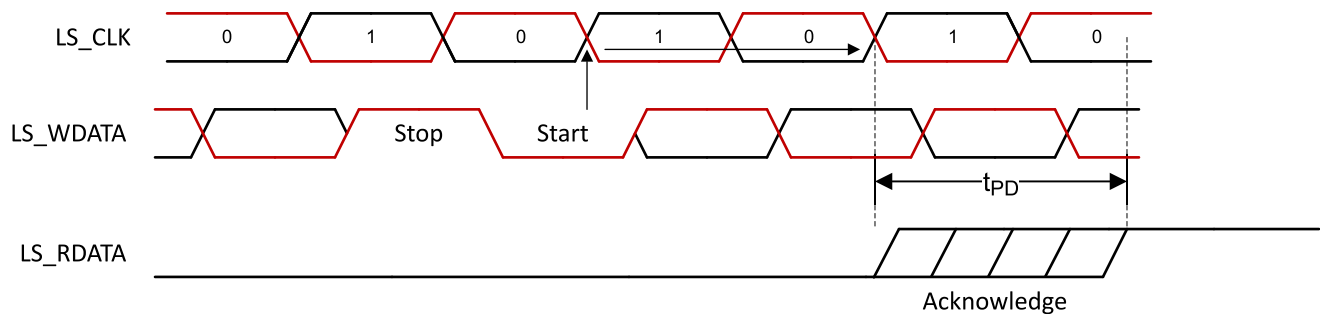
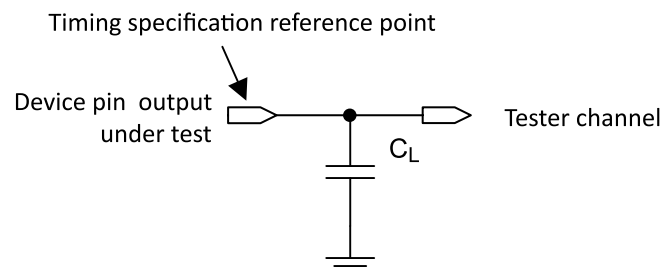

Figure 6-10. LPSDR Read Out
Figure 6-11. Test Load Circuit for Output Propagation Measurement
(1) Device electrical characteristics are over Recommended Operating Conditions unless otherwise noted.
(2) See Figure 6-10 and Figure 6-11